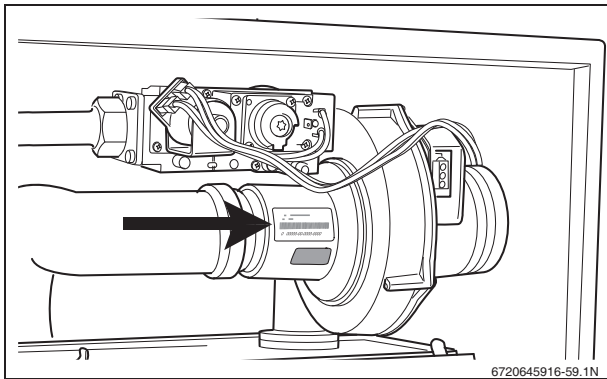

Fig. 59 Checking the gas classification label
- ▶ Check that the actual gas supply is in accordance with the type of gas supply specified on the gas classification label (fig. 59)